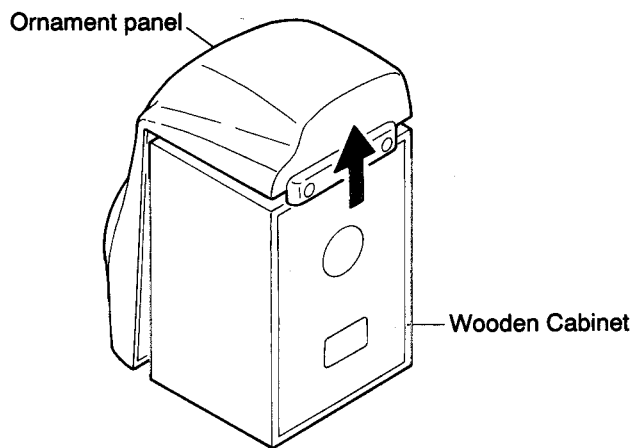

Fig. 5-63
5. Detach the ornament panel at the front of the speaker from the wooden cabinet by flipping it up from the lower edge. (See Fig. 5-63.)